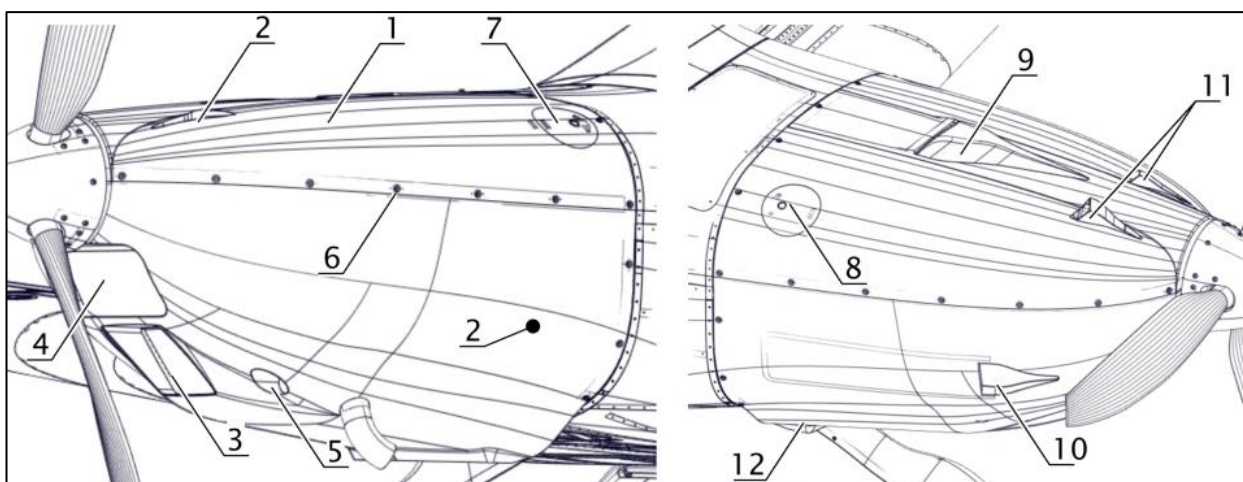

Fig. 1 *Engine Cowling*
Engine cowling (Fig. 1) consists of two parts: upper cowling and lower cowling. The upper cowling (1) is attached by means of quick fasteners – Camlocks (6) to the firewall and to the lower cowling (2). Unlock the quick fasteners by turning the bolt by 90° counter-clockwise. The oil access cover (7) which is located on the upper cowling on the left side in front of the firewall enables to check oil quantity in the oil tank without removing the upper cowling and without the use of tools. The coolant access cover (8) is mirrored on the RHS for preflight check of coolant level in the overflow bottle.